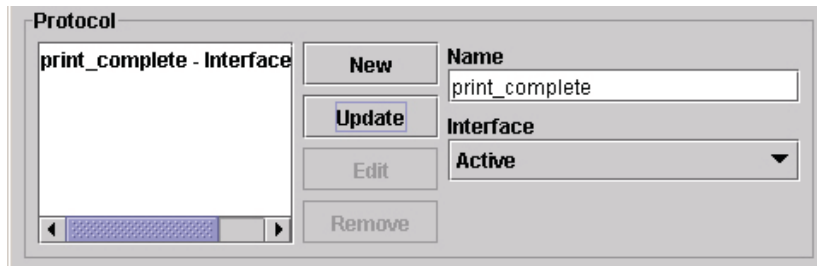

Figure 173 Adding Protocols
11. Click **Add** to add it to the list of protocols. See Figure 173.